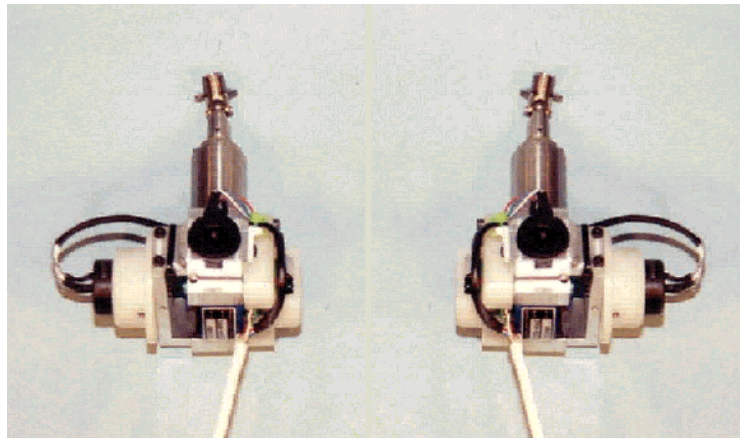

Figure 17.3- Comparison of the left and right DGSP units
2. Identify the left and right DGSP units, noting that the left and right units are assembled differently. The difference relates to the position of the rotary potentiometer #2 in the final mounted position. On their perspective sides, the #2 rotary potentiometers are facing upward on the yoke and gimbal assembly. They are positioned this way to prevent interference with the side support brackets if facing downward. **Figure 17.3** shows the left and right DGSP units for reference.